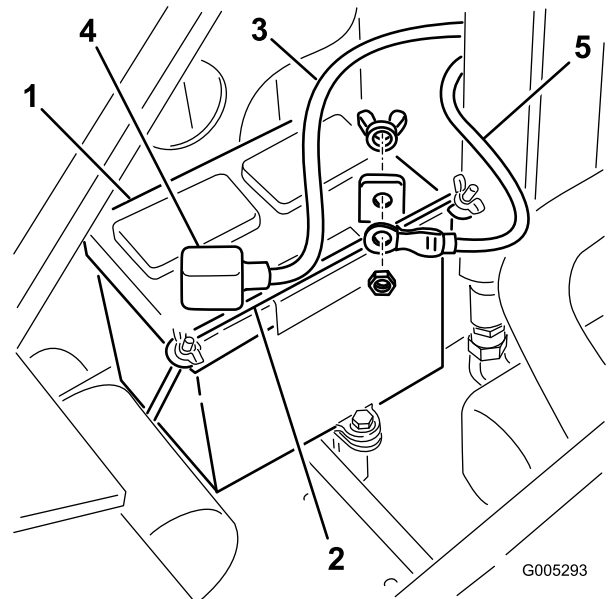

Figure 28
4. Remove the wing nuts and bar securing the battery (Figure 28).
9. Install the battery into the chassis (Figure 28).
10. Secure the battery in the chassis (Figure 28).
11. Using the bolt and wing nut supplied with the battery, connect the positive (red) cable to the positive (+) battery post (Figure 28). Slide the rubber cover over the battery post.
12. Using the bolt and wing nut supplied with the battery, connect the negative (black) cable to the negative (-) battery post (Figure 28).